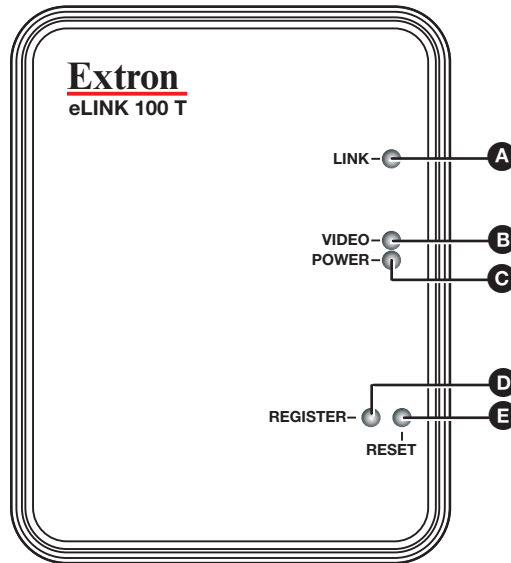

Figure 6. eLink 100 T Transmitter Top Panel
3. Press and hold the **Register** button (see figure 6, **D** on page 8) on the transmitter top panel until the following message appears on the OSD: *Adding transmitter name. Press OK to continue or Exit to cancel.*
Press and hold the **Register** button on the transmitter top panel (see figure 6, **D**) until the following message appears on the OSD: *Adding transmitter name. Press OK to continue or Exit to cancel*